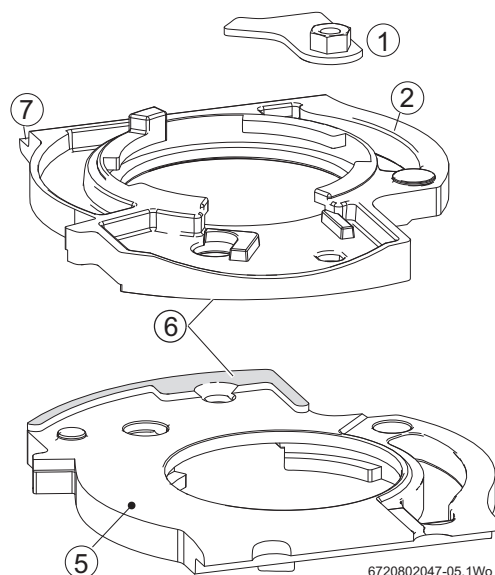

Fig. 82 Clamping plate detail
- Refer to figure 82 for detail of the clamping and mating surface [6]